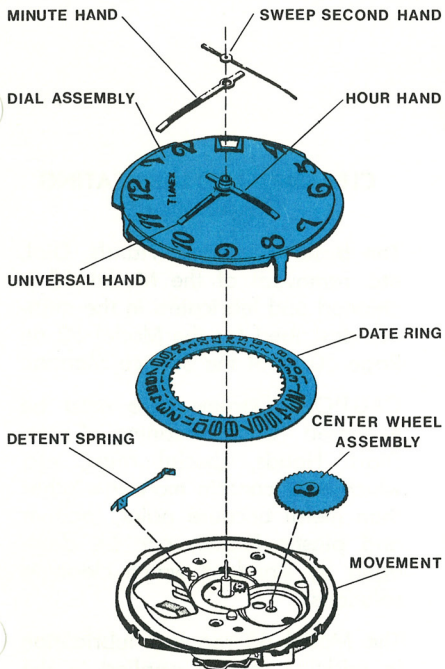

FIGURE 5
- Center Wheel Assembly (see Figure 5)